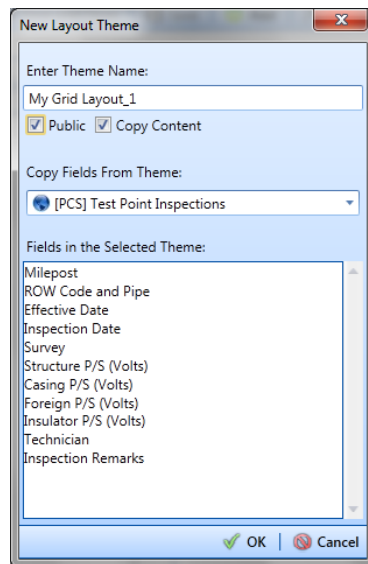

Figure 7-83. New Layout Theme
- 5 Click the **Customize** tab  then the  **Add** button to open the *New Layout Theme* dialog box (Figure 7-83).